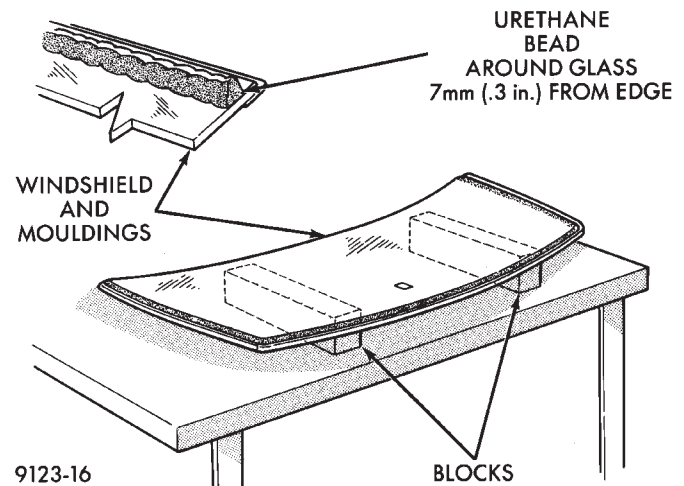
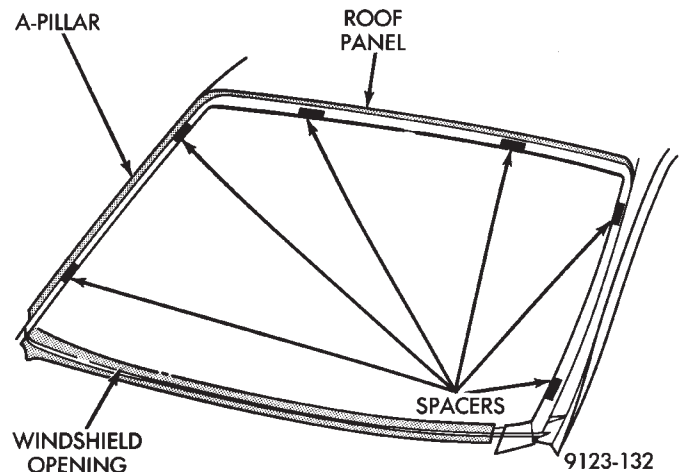
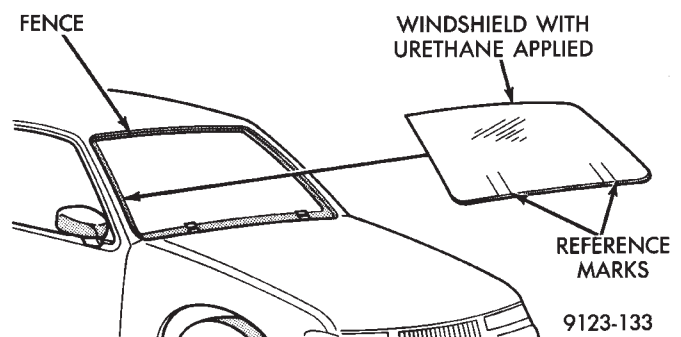

Fig. 4 Work Surface Set up and Molding Installation
Fig. 5 Position Urethane Compression Spacers
Fig. 6 Lower Windshield Into Position
- (2) Position the windshield inside up on a suitable work surface with two padded, wood 10 cm by 10 cm by 50 cm (4 in. by 4 in. by 20 in.) blocks, placed parallel 75 cm (2.5 ft.) apart (Fig. 4).
(3) Clean inside of windshield with Mopar® Glass Cleaner and lint-free cloth.
(4) Apply clear glass primer 25 mm (1 in.) wide around perimeter of windshield and wipe with clean/dry lint-free cloth.
(5) Apply black-out primer 15 mm (.75 in.) wide on top and sides of windshield and 25 mm (1 in.) on bottom of windshield. Allow at least three minutes drying time.
(6) Position windshield bonding compression spacers on lower fence above the support spacers at the edge of the windshield opening (Fig. 5).
(7) Apply a 10 mm (0.4 in.) bead of urethane around perimeter of windshield along the inside of the moldings.
(8) With the aid of a helper, position the windshield over the windshield opening. Align the reference marks at the bottom of the windshield to the support spacers.
(9) Slowly lower windshield glass to windshield opening fence. Guide the top molding into proper position if necessary. Push windshield inward to fence spacers at bottom and until top molding is flush to roof line (Fig. 6).
(10) Clean access urethane from exterior with Mopar®, Super Clean or equivalent.
(11) Install windshield molding. Apply 150 mm (6 in.) lengths of 50 mm (2 in.) masking tape spaced 250 mm (10 in.) apart to hold molding in place until urethane cures.
(12) Install cowl cover and wipers.
(13) Install inside rear view mirror.
(14) After urethane has cured, remove tape strips and water test windshield to verify repair.